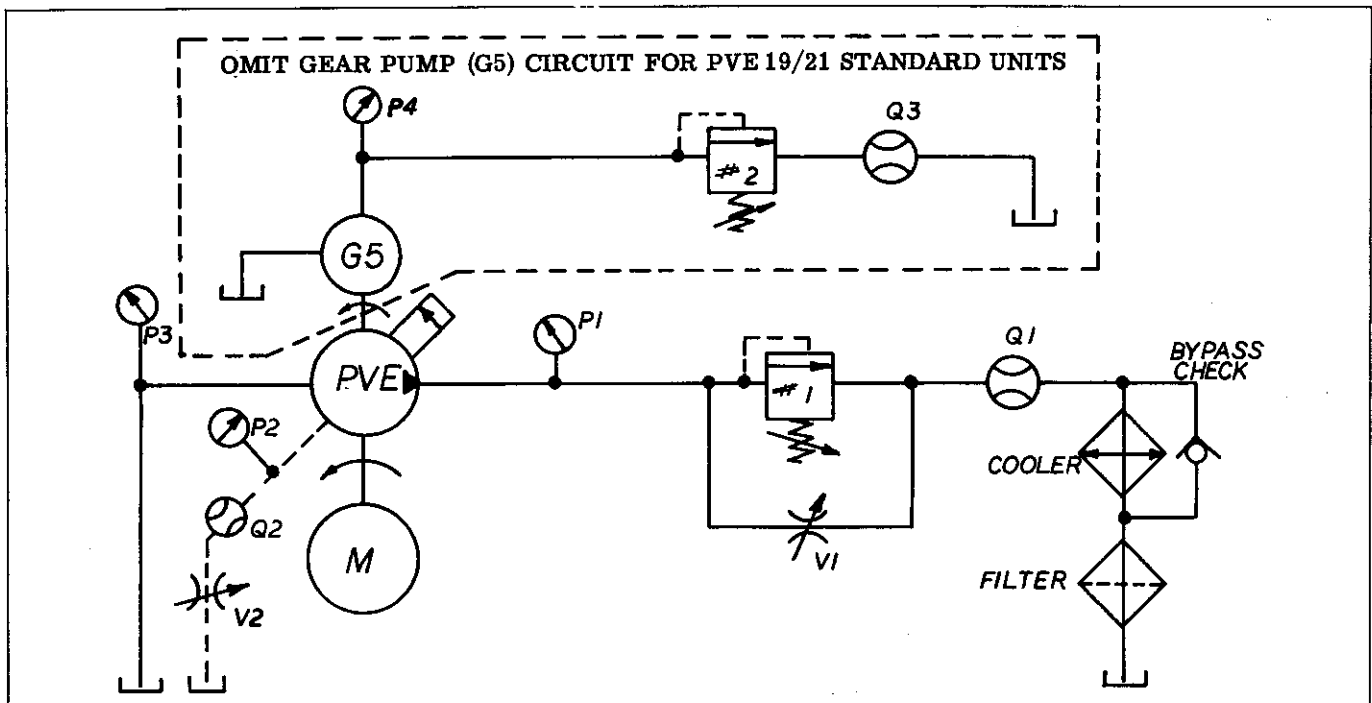
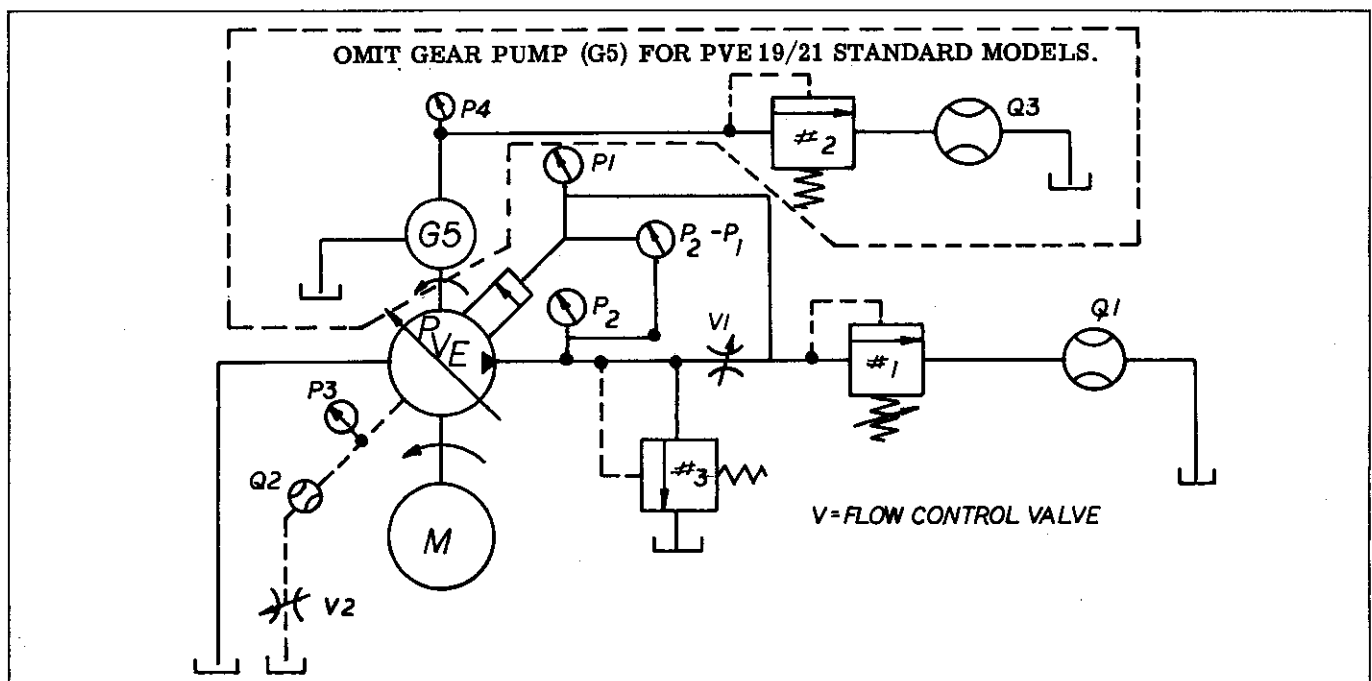

Figure 23. Circuit Diagram for "C" & "CG" Control
Figure 24. Circuit Diagram for "CV", "CVP" & "CVPC"
Install unit as shown in test circuit diagram with case drain up. Use the correct circuit diagram for the unit: Figure 23 - PVE19/21 (G)-*-C/CG-1*. Figure 24 - PVE19/21 (G)-*-CV/CVP/CVPC units.
1. Adjust load valve one (1) and globe valve one (1), Figure 23, for exactly 100 Psig as read at gauge P1. The unit
2. Refer to Figure 23 and adjust load valve (1) and globe valve (1) to 100 PSI system pressure at P1. Observe maximum pump flow and maximum case leakage requirements noted in Table 4.
3. Close load valve (1) and globe valve (1) to obtain minimum pump pressure setting. Minimum pump pressure should be approximately 250 PSI at P1.
Refer to Figure 24 for location of circuit components.